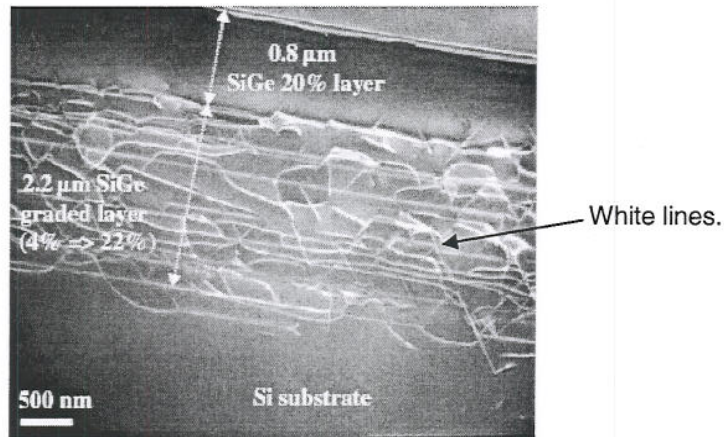

Figure 1.3: the TEM cross section of a Si/SiGe graded layer/ $\text{Si}_{0.8}\text{Ge}_{0.2}$ heterojunction (pic. J.M. Hartmann).
- g) In fig. 1.3 a TEM (transmission electron microscope) picture is given of the cross section of a relaxed SiGe graded layer (virtual substrate). What are the white lines that occur in the graded SiGe layer? [2]